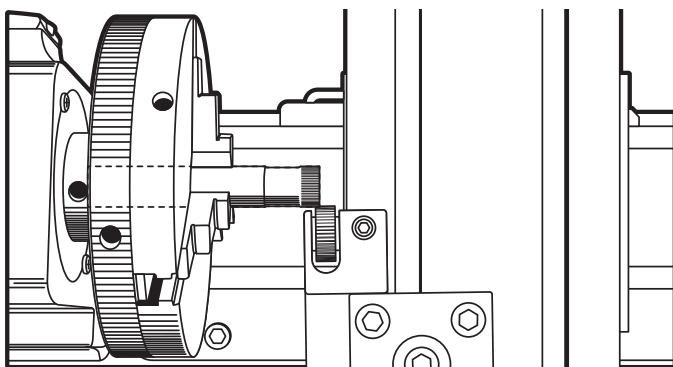

FIGURE 1—The dashed line indicates the stock passing into the chuck body.
**Part holding methods:** For best results when holding your stock in a collet or a chuck, use a collet that will allow you to feed the stock through the center of the collet, or hold the stock in a chuck using the full face of the chuck jaws with the stock going past the jaws and into the chuck body and/or spindle (see Figure 1). In general, this means that your stock diameter will not exceed 3/8" on our standard headstock spindle and 1/2" on our 3C headstock spindle.